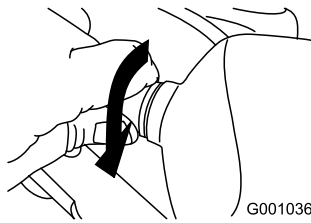

Figure 62
5. Turn the base of the bulb clockwise until it is snug (Figure 62).